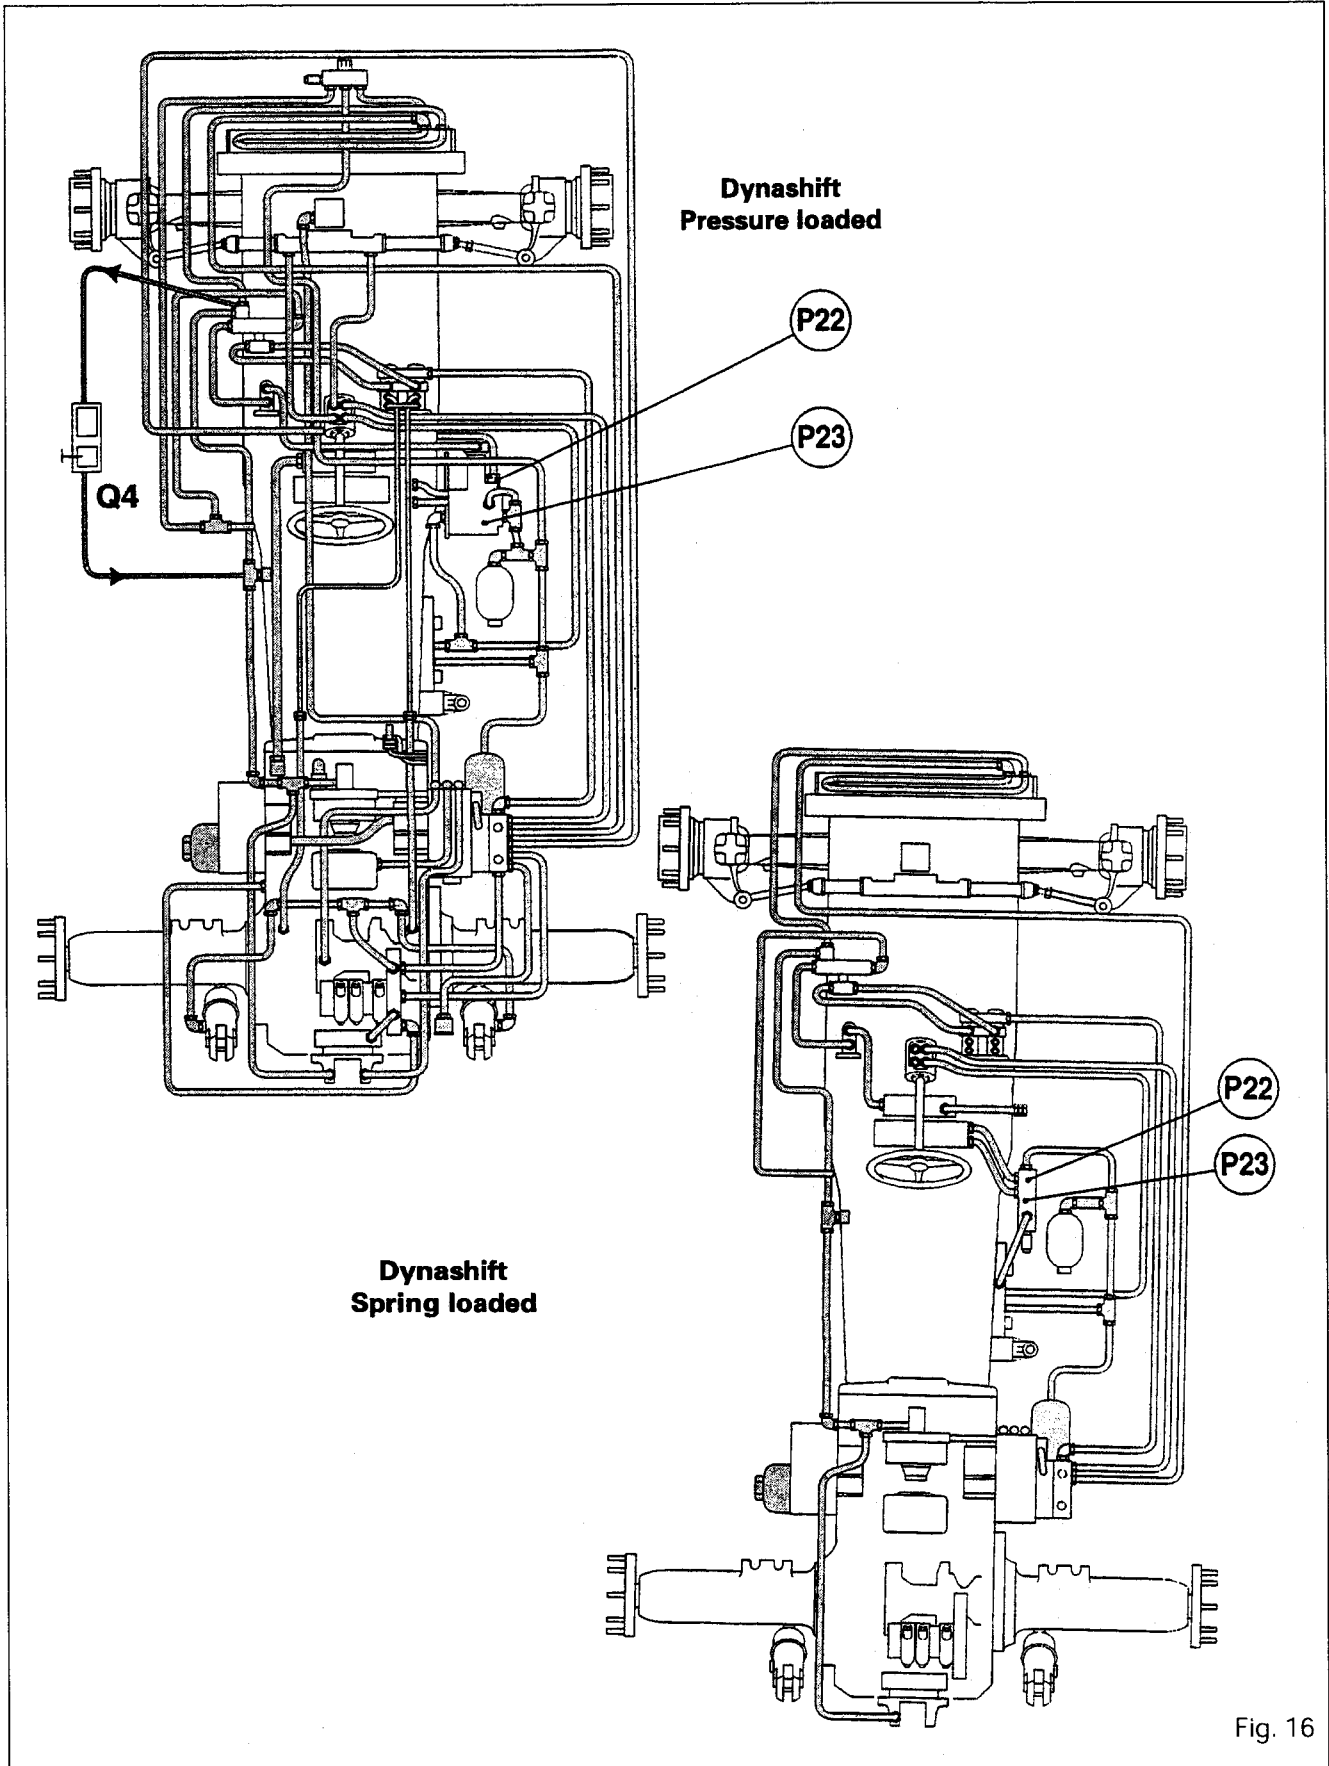

Fig. 16
- Connect a flowmeter to the lubricating circuit between the manifold and the gearbox to read **Q4** (Fig. 16).